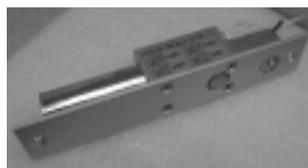

Figure 1 Drop bolt
- ii. Use Drop Bolt (Figure 1) instead of EM lock. Drop bolt has special bracket to hold on to glass doorframe.